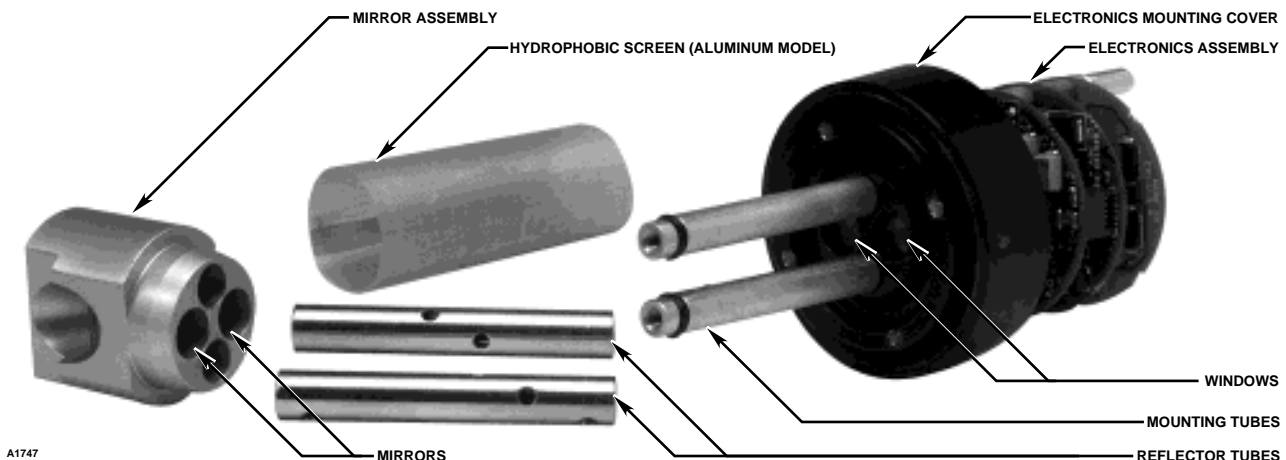
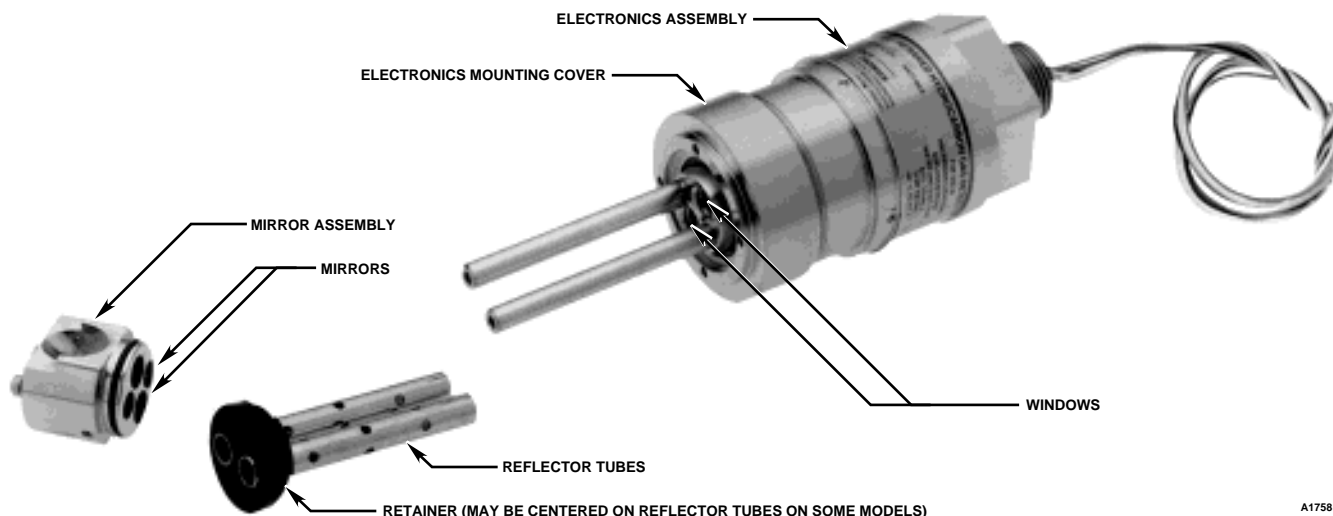

Figure 24—Aluminum PointWatch Detector Disassembly for Cleaning
Figure 25—Stainless Steel PointWatch Detector Disassembly for Cleaning
3. Slide the electronics mounting cover back to the base of the mirror assembly and pull the IR module out of the base as shown in Figure 12. Do not grasp the hydrophobic screen (aluminum model only) to pull the IR module from the base as this may damage the screen. Once the IR module assembly is pulled from the base, slide the electronics mounting cover back to the electronics assembly as shown in Figure 24.
4. Loosen the two captive screws on top of the mirror assembly (Figure 11) and slide the mirror assembly, hydrophobic screen (aluminum model only) and reflector tubes away from the electronics assembly and electronics mounting cover. See Figure 24 (aluminum model) and Figure 25 (stainless steel model).
5. Disassemble the mirror assembly, reflector tubes and hydrophobic screen as shown in Figure 24 (aluminum model) and Figure 25 (stainless steel model). Do not remove the electronics mounting cover.
6. Clean the inside of the mirrors (2), reflector tubes (2), and the windows (2) using cotton swabs and isopropyl alcohol or circuit cleaner.